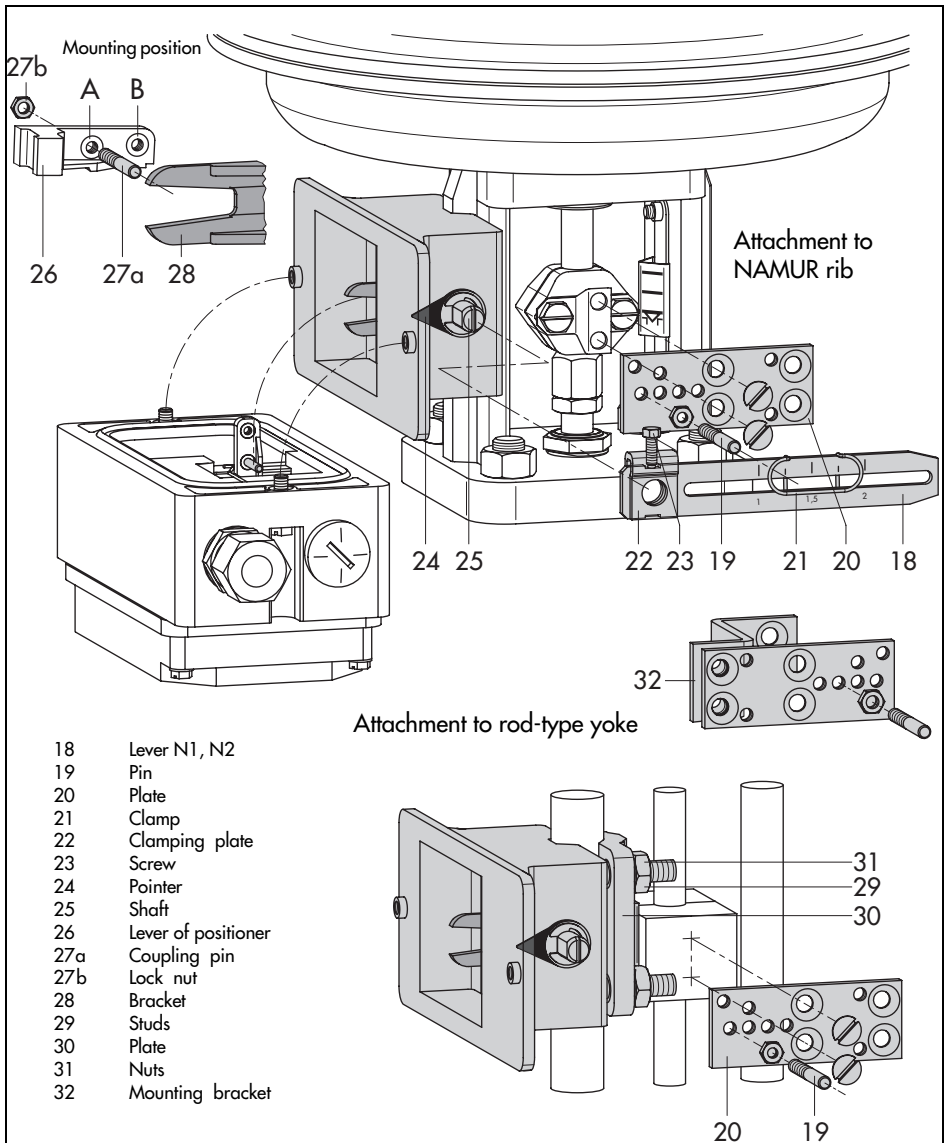

Fig. 4 · Attachment according to IEC 60534-6 (NAMUR)
The positioner is attached according to NAMUR using an adapter housing as shown in Fig. 4. The valve travel is transmitted via the lever (18) and the shaft (25) to the bracket (28) of the adapter housing and then to the pin (27a) located at the positioner lever.